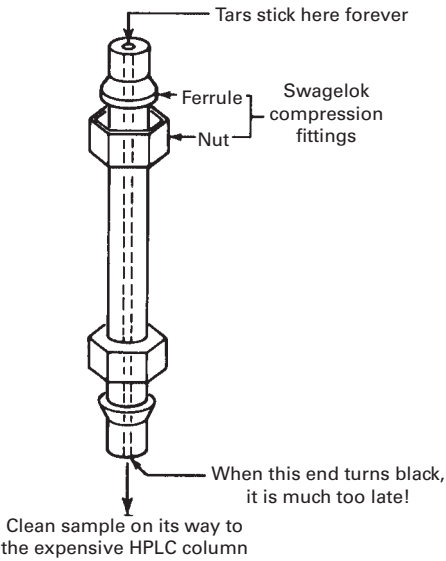

FIGURE 31.5 The precolumn filter.
2. **The precolumn filter or guard column** (Fig. 31.5). Add a tiny column filled with exactly the same material as the main column, and *let this small column get contaminated*. After a while, it used to be that you removed it, cleaned out the gunk and adsorbent, and refilled it with fresh column packing. Today it just gets thrown out. Either way, you don't really know when the garbage is going to poison the entire precolumn filter and then start ruining the analyzing column. The only way to find out whether you have to clean the precolumn is to take it out of the instrument. You really want to clean it out or throw it out long before the contaminants start to show up at the precolumn, or guard column, exit.